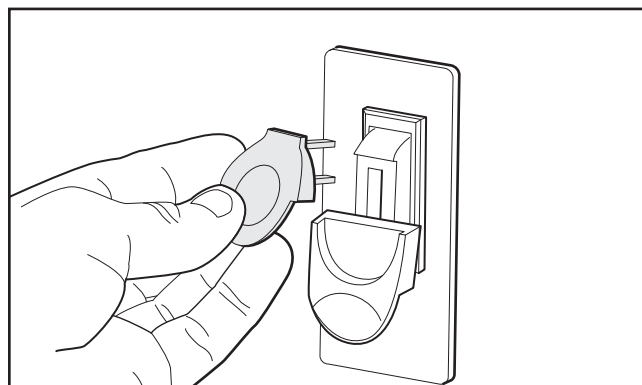

Figure 8. Removing switch key from paddle switch.
7. Remove the switch disabling key, as shown in **Figure 8**.